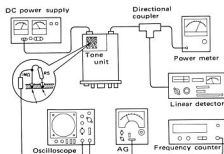

Fig. 27 Tone Unit Adjustment
- (2) Connect the test equipment to Fig. 27.
- (3) Adjust VR1 until the wave of oscilloscope reads circle.
- (4) Check that. Set the AUX switch is at OFF. Set the transceiver ready for transmission. The linear detector reads more than ± 2.5 kHz.
- (5) In case of T type, when change to transmitter from Receive. Adjust VR2 until take a modulation at 0.7 sec.